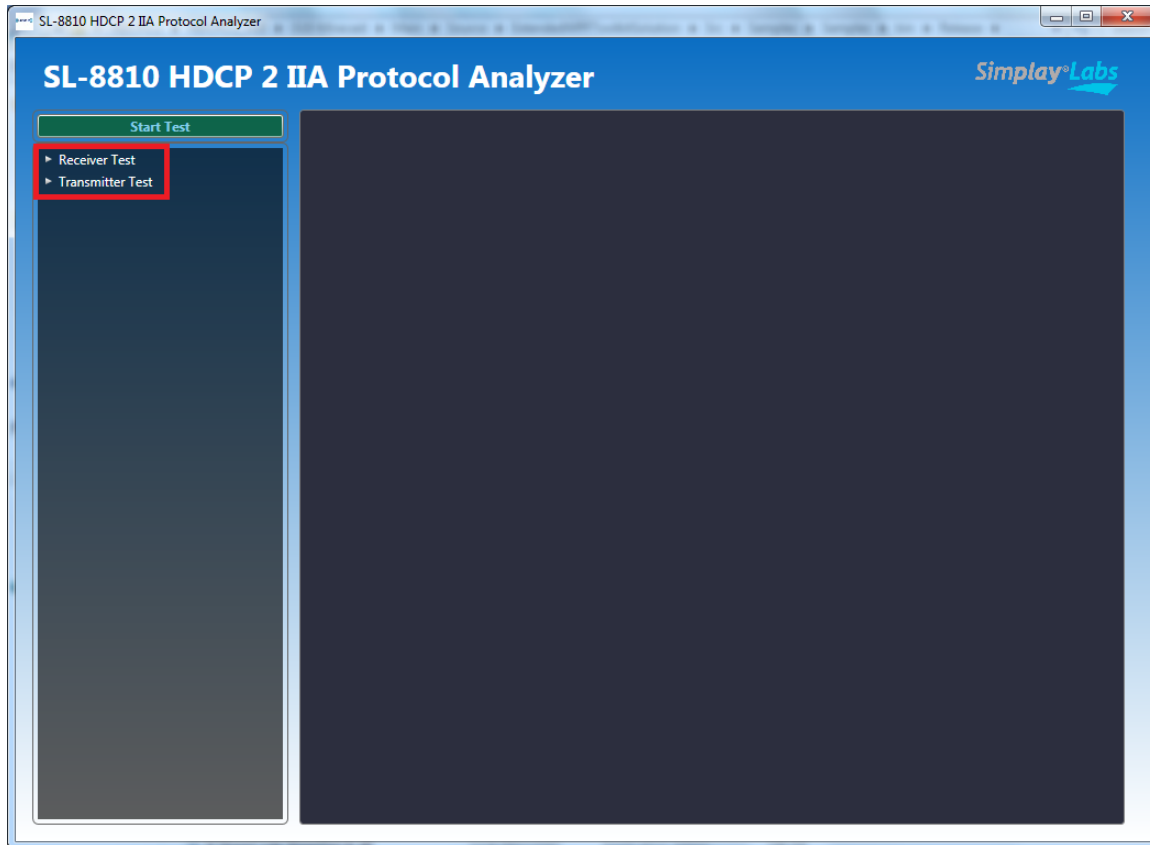

Figure 1.7. SL-8810 HDCP 2 IIA Protocol Analyzer Window
2. The SL-8810 HDCP 2.2 IIA Protocol Analyzer window appears. See Figure 1.7. Click the arrow on the left panel to expand any of the test menus or test menus or test IDs.